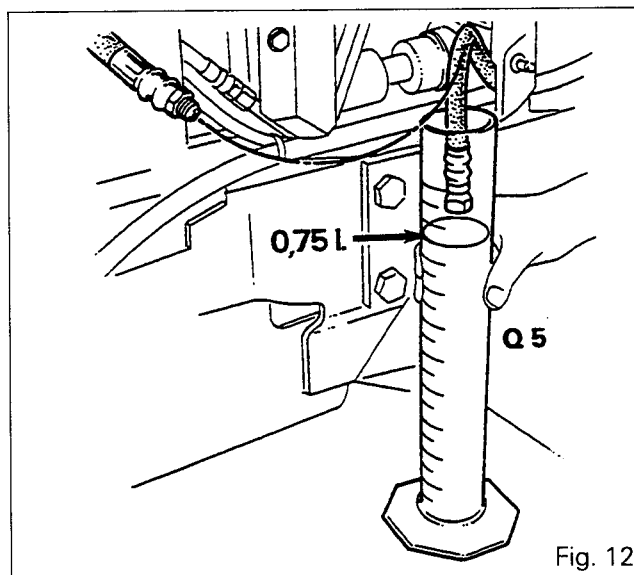
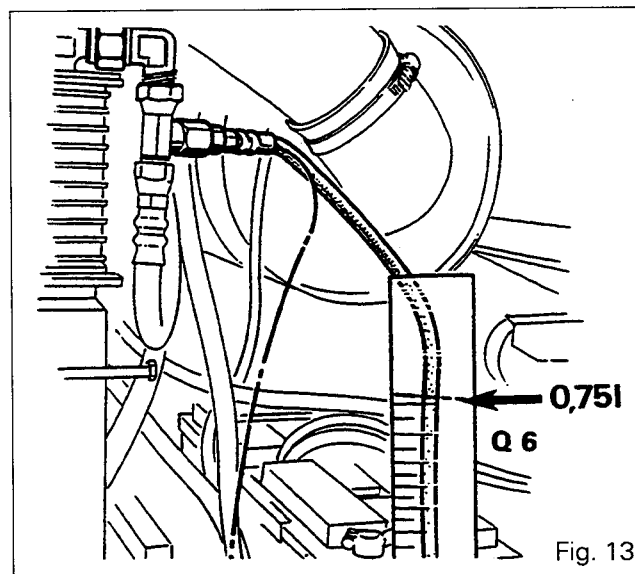

Fig. 12
Fig. 13
- Using a probe, measure the outlet flowrate **Q5** (Fig. 12) and the inlet flowrate **Q6** after the restrictor (Fig. 13).